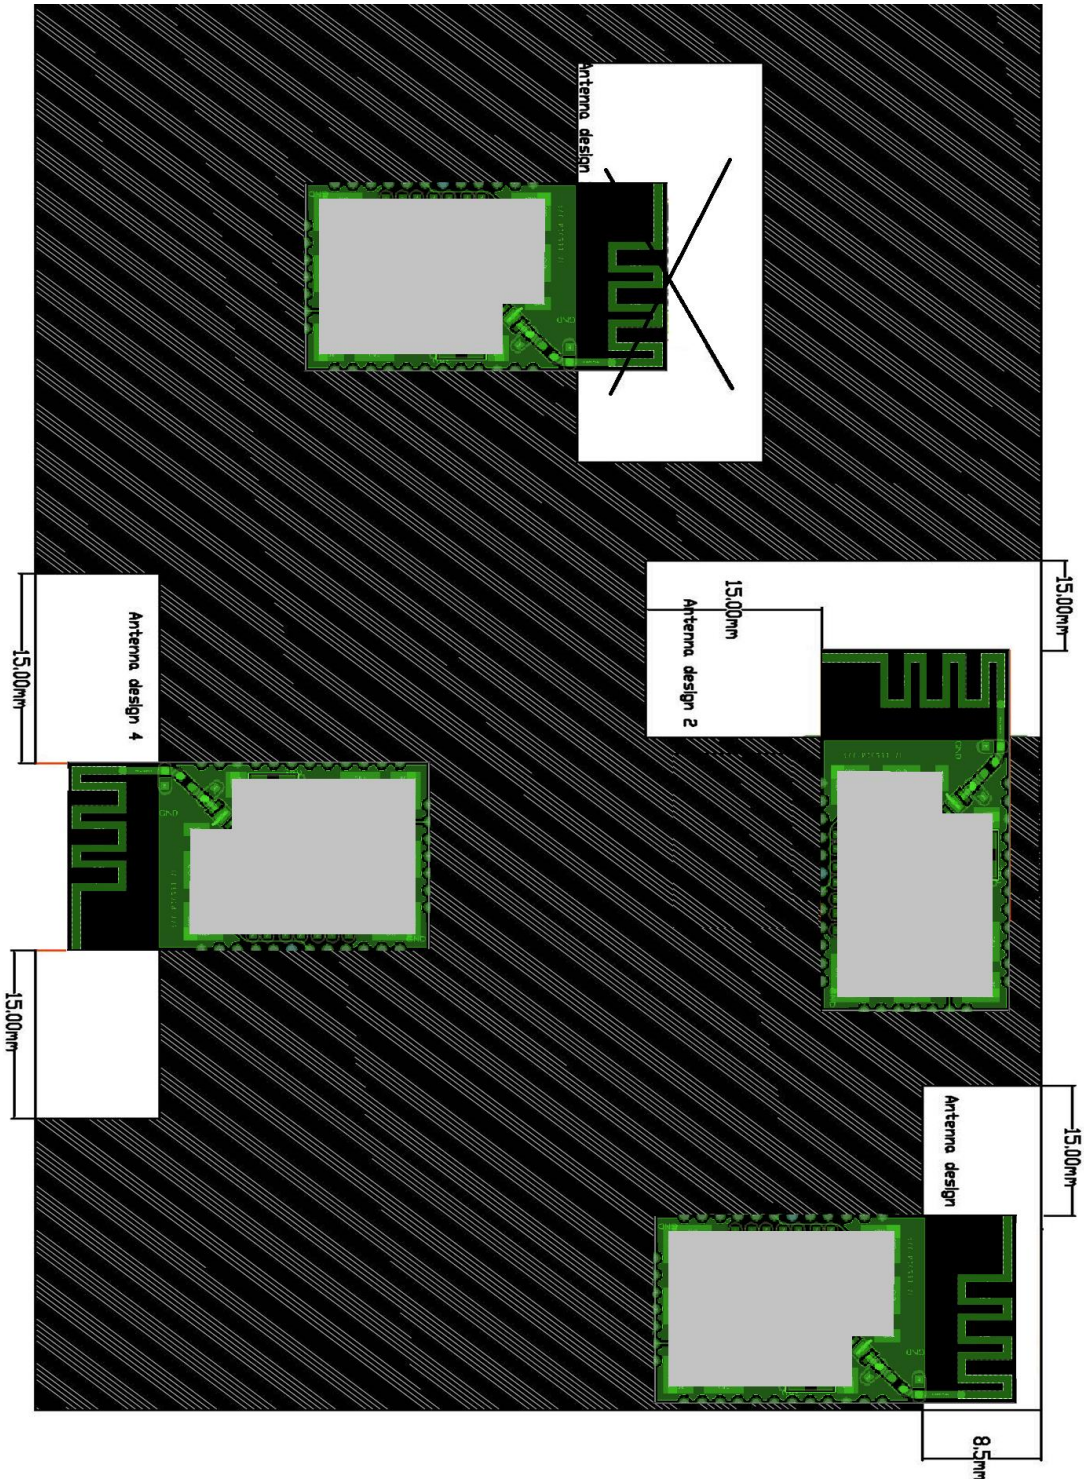

Figure 9 : Placement the module and the ground of main PCB Board
2. There should also have a good ground panel and clearance on the main PCB board on which the module is mounted. As shown in Figure 9.